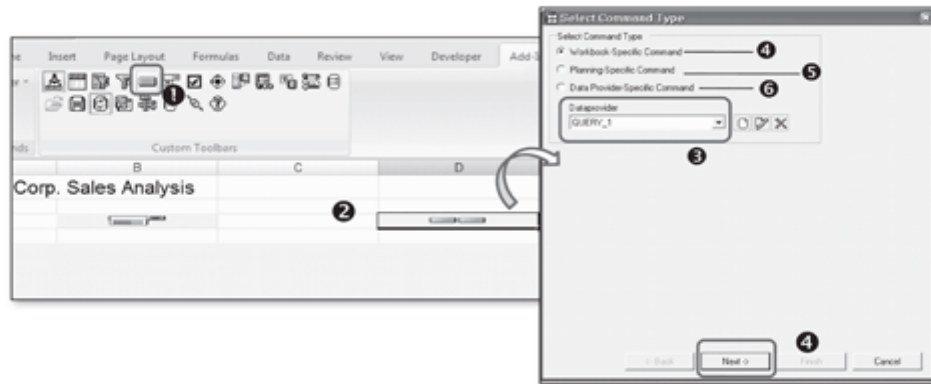

Figure 10.34 Insert Button Design Item
8. Now, insert a button design item in the workbook using the function button from the Design toolbar (1 of Figure 10.34). Double-click on the newly inserted button (2) in the workbook to call the properties screen for it.